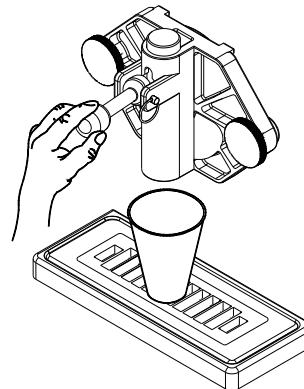

Fig. 8
3. Set each control switch to the “**OFF**” (center) position. Close the spigot handle(s) (Fig. 8) before proceeding to cleaning.